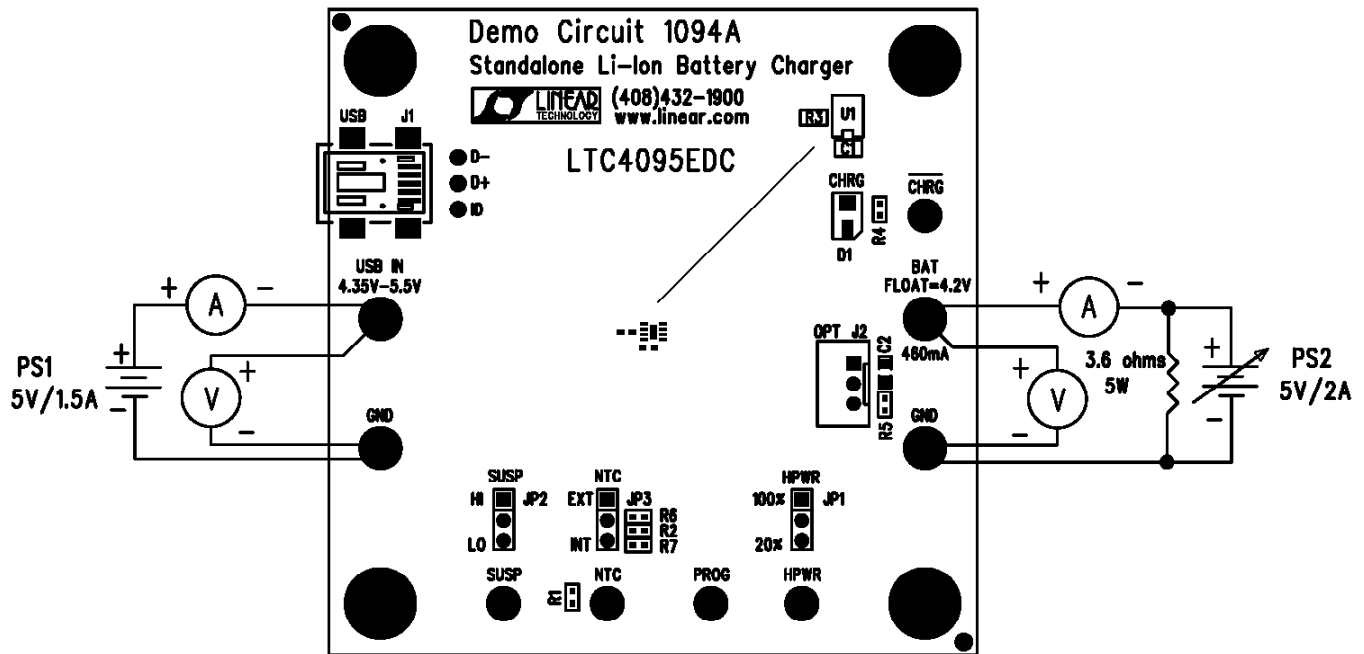

Figure 1. Proper Measurement Equipment Setup
Demonstration circuit 1094 is easy to set up to evaluate the performance of the LTC4095. The charger may be evaluated using an actual Li-Ion battery, a bi-polar supply, or a battery simulator. A battery simulator consists of an adjustable supply with a load resistor across the supply output. A 3.6Ω 5W resistor value will provide an 800mA load at 2.9V. This will allow the power supply to sink and source current similar to a battery, but allows the battery voltage to be changed quickly or remain at the same value indefinitely. Refer to Figure 1 for proper measurement equipment setup and follow the procedure below:
2. With the power supplies adjusted to 0V, connect the USB IN power supply and Battery or Battery Simulator with series ammeters, as illustrated in Figure 1. An ammeter or a $100m\Omega$ current sense resistor may be used to measure the battery charge current.
3. Connect voltmeters, as shown in Figure 1, across the USB IN and GND terminals, and across the BAT and GND terminals. These voltmeters may also be used to measure the voltage on the PROG terminal.